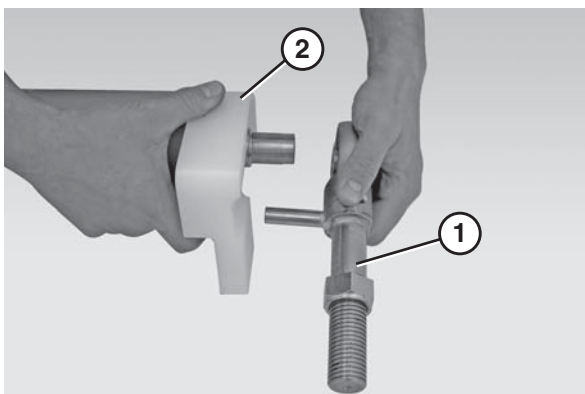

Figure 62
5. Remove the bearing shafts (Figure 62, item 1) and both pinch guards (Figure 62, item 2).